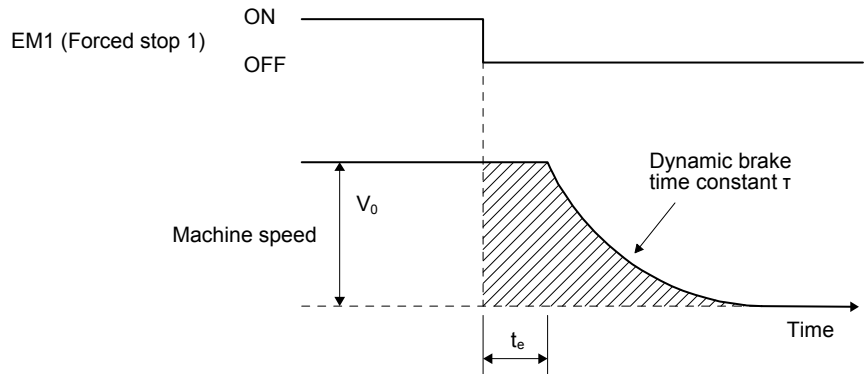

Fig. 18.2 Dynamic brake operation diagram
Fig. 18.2 shows the pattern in which the servo motor comes to a stop when the dynamic brake is operated. Use equation (18.1) to calculate an approximate coasting distance to a stop. The dynamic brake time constant τ varies with the servo motor and machine operation speeds. (Refer to (1) (b) of this section.)